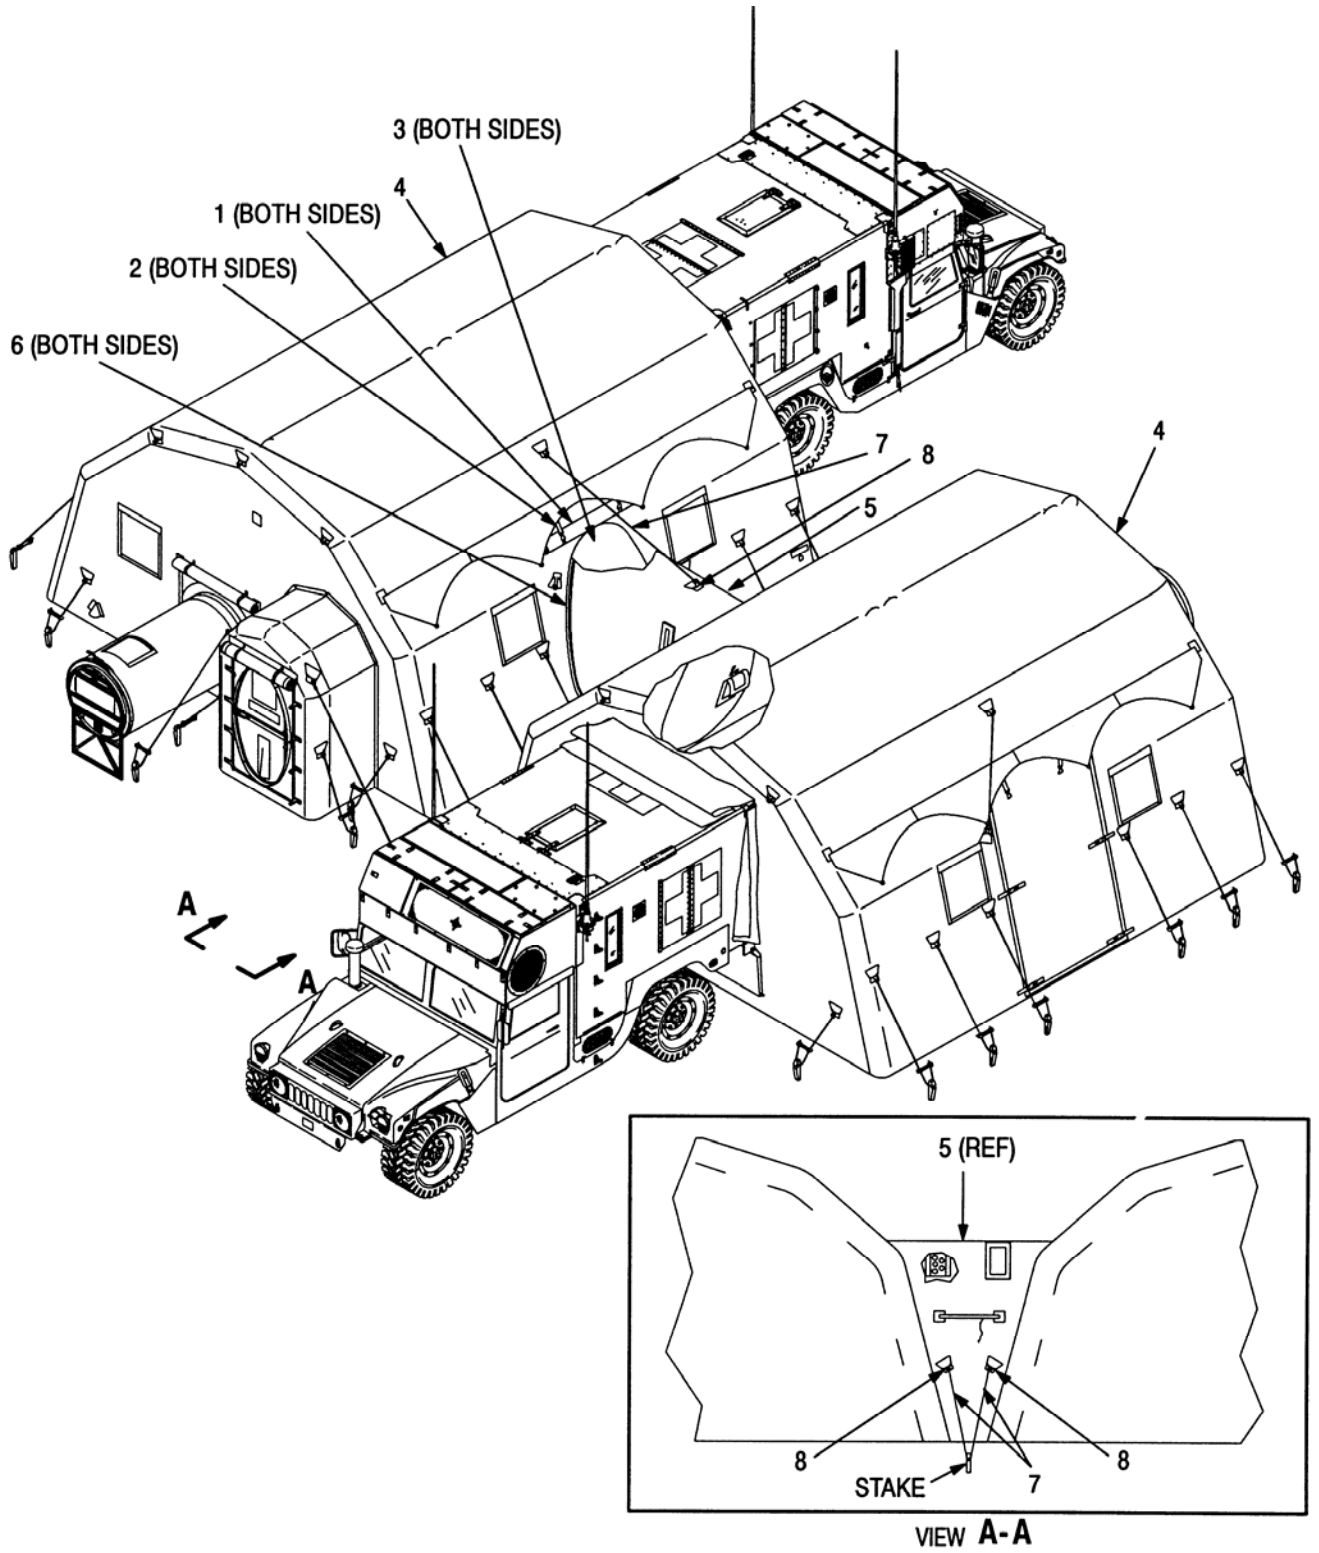

Figure 2-23. DCS Setup
- (3) Roll DCS entryway flaps (1, figure 2-23) under so that green or tan material faces out, to minimize contamination and moisture retention. Secure DCS entryway flaps (1) using buckles and straps (2). Secure straps (2) to buckles under flap (1).
- (4) Insert door before openings (3) on both inflated ABSs (4), roll up, and use interior straps to hold covers out of way.
- (5) Secure DCS connector (5) using zippers and buckle attachments (6) on both ABSs (4).
- (6) Connect support lines (7) to Dee Rings (8) on DCS connector (5).
- (7) Anchor DCS connector (5) to stakes at each side of connector (5) with support lines (7).